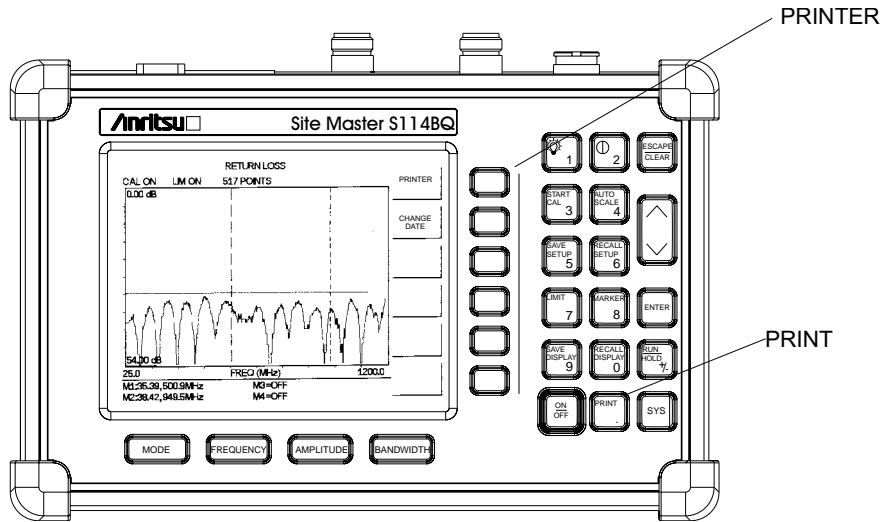

Figure 3-17. PRINTER Soft Key and PRINT Key
- Step 5.** Press the **PRINT** key. (Figure 3-17).